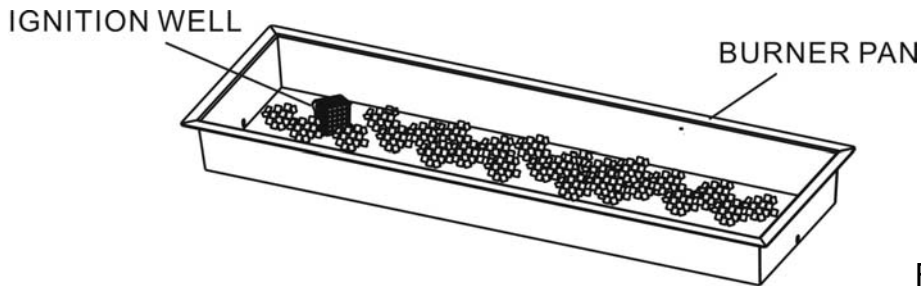

Figure 9
10. Pour ALL the provided media (fire ice or lava rock) into the burner pan. The burner MUST be completely covered to ensure the appliance functions properly and safely. Remove any lava rocks or fire ice on top of the ignition well. See Figure 9.